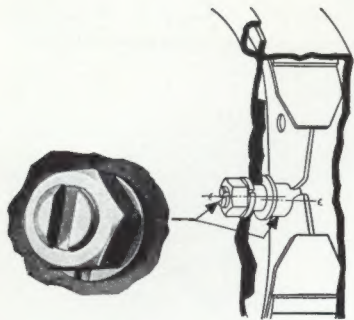

Fig. N29B—A screwdriver slot identifies the eccentric type anchor pin
Some of the single anchor models are provided with an eccentric type anchor and others use the sliding type. A few are provided with a stop for the lower shoe as shown in Figs. N29B and N29C.
There are two types of anchor now in use. The plain sliding type is identified by reference to "O" in Fig. N29A. The eccentric type may be identified by the screwdriver slot in its end as in Fig. N29B.
- 6a. If you are working on a job with eccentric type anchors, as in Figs. N29B or N29F, loosen the anchor locknut sufficiently to allow you to turn anchor with a screwdriver; then insert a .010 in. feeler at anchored end of eccentric controlled shoe as outlined in paragraph above. Now turn anchor until .010 in. feeler is just gripped. Recheck adjusting screw end of the shoe with .010 in. feeler and, if necessary, slightly readjust eccentric and anchor at same time so that .010 in. feeler is a snug fit at both ends. Holding this position, tighten eccentric adjustment and anchor locknuts, using full leverage of a 16 in. wrench on the latter. Do the same on other three brakes.